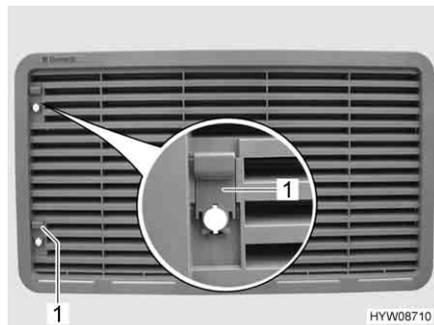

Fig. 62 Refrigerator ventilation grill
- Push sliding trap (Fig. 62,1) upward.